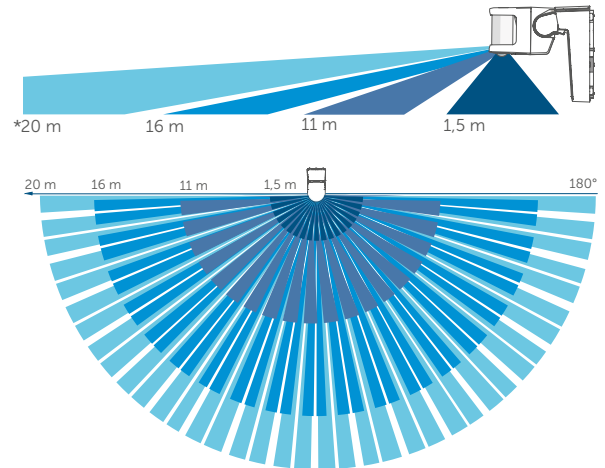

Figure 3
-  The detection lens of the motion detector operates on multiple detection levels, each of which has 12 segments. This means that, with an aperture angle of 180°, a range of up to 20 m can be achieved. The total possible detection range is shown in Figure 3.